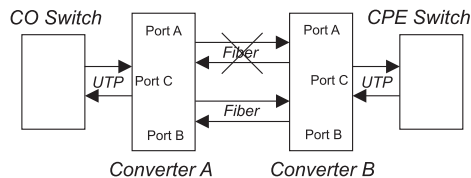

Fig 2: Redundant Fiber to Customer
In "Link Segment" (LS), sometimes referred to as the "Normal" mode, a port transmits a "Link" signal independently of any received "Link" at any other port. For example, the UTP transmits a "Link" regardless of the fiber receiving a "Link" [Fig 2(a) & (b)]. Figure 2(a) shows the state when all links are functioning correctly. Port A LEDs indicate link and activity, while the Port B LEDs blink at one Hertz to indicate they are not active, but are in "Standby". Figure 2(b) shows that when the fiber link to Port A is broken, Port B becomes active.